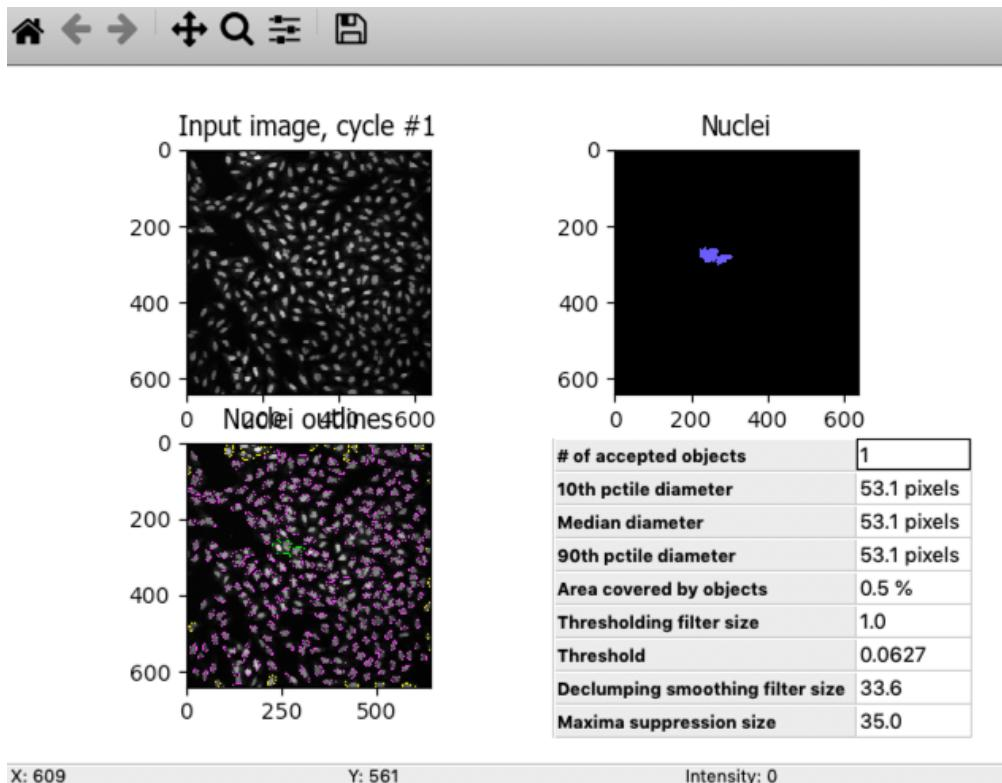

Figure 2: Example module display window for *IdentifyPrimaryObjects* .
- Click on the "Step" button below the pipeline panel, in order to progress through each module in the pipeline, one by one. Upon stepping through the *IdentifyPrimaryObjects* module, a module display window will appear similar to that shown in Figure 2 below.
The results of *IdentifyPrimaryObjects* are displayed in four panels in the display window, as shown in Fig. 2: